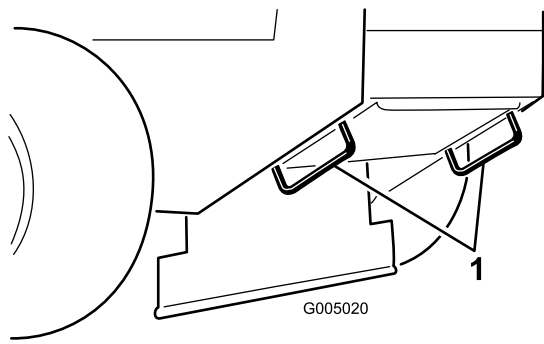

Figure 11
5. Use the metal tie down loops on the machine to securely fasten the machine to the trailer or truck with straps, chains, cable, or ropes (Figure 11).